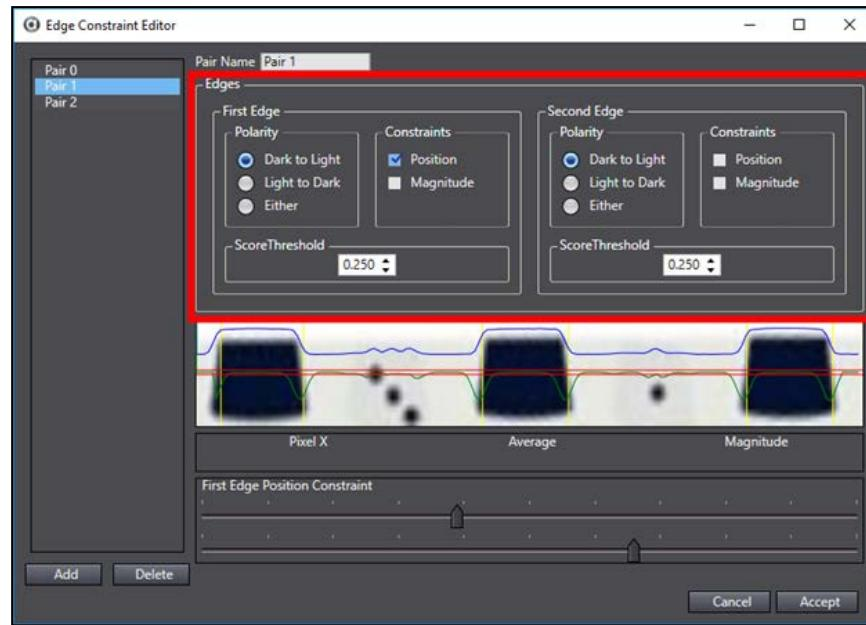

Figure 8-238 Arc Caliper - Edge Constraint Editor - Edges
- **Polarity:** defines the gray level deviation for which the tool searches. This is performed with respect to the clockwise direction of the region of interest. For example, in Figure 8-238 Dark to Light is selected for both edges, and in both cases, the left side of the edge is black.